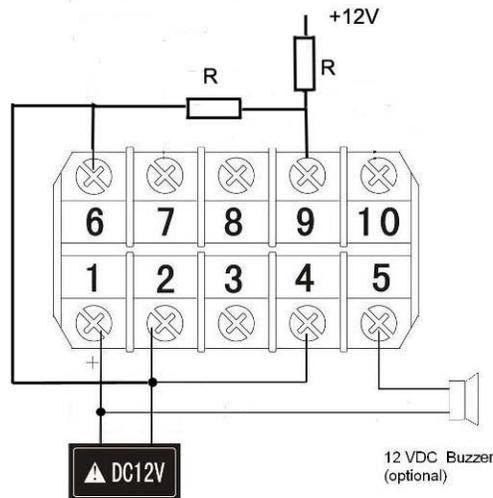

Fig 1. Wiring diagram.
1) Wiring the meter as shown in Fig 1. Get two identical $\frac{1}{4}$ watts resistors (R1 and R2, not included). Its resistance value should be in the 1-2 kohm range. Connect one resistor between terminals 6 and 9. Connect another resistor between terminal 9 and the positive of the battery. Connect 12 VDC to terminal 1 (+) and 2 (-). Jump a wire between terminal 6 and 2. The 12V DC buzzer is optional.